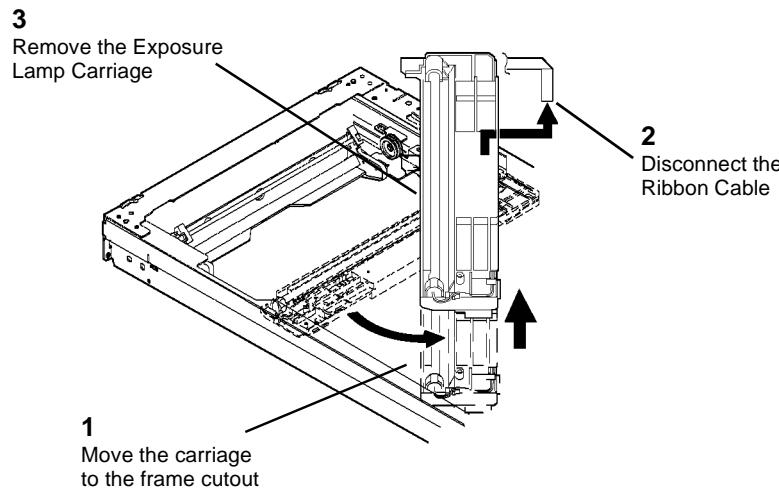

Figure 2 Removing the Exposure Lamp Carriage
3. (Figure 2): Remove the Exposure Lamp Carriage.